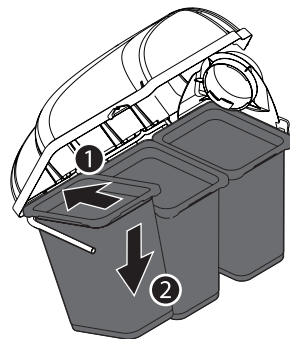

Figure 18
9. Install all three bag assemblies (664-05104) onto the hanger assembly by inserting the front edge in first (1), and then setting the back edge down until it fits into the assembly (2), as shown in Figure 18.